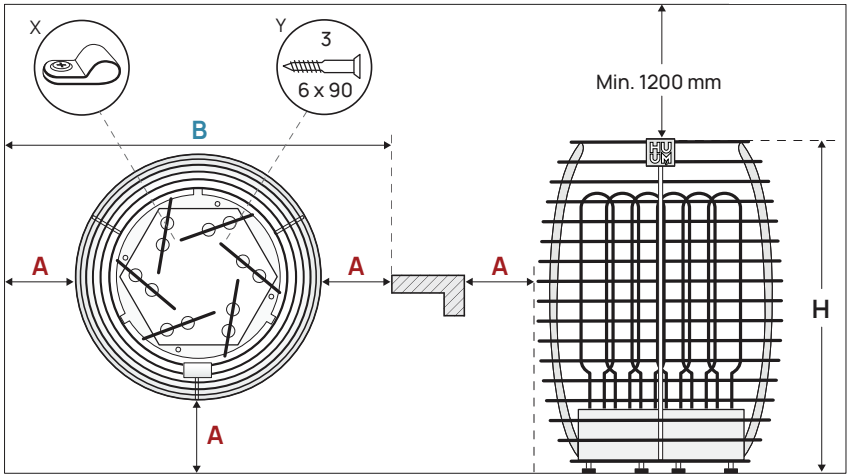

Figure 1 Positioning of the heater
- Are minimal safety distances ensured at the installation site of the heater? Minimal safety distances between the steam room's ceiling and walls in view of installing the electric heater have been provided in **Table 1** and **Figure 1**.